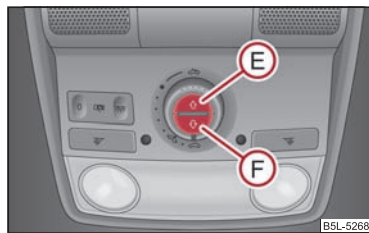

Fig. 35 Buttons for sun screen
You can open or close the sun screen separately with the aid of the buttons ⇒ fig. 35. ▶
- Briefly press the button **(E)** ⇒ page 50, fig. 35 in order to fully open.
- Briefly press the button **(F)** ⇒ page 50, fig. 35 in order to fully close.
Press the switch  ⇒ page 50, fig. 35 for approx. 10 seconds in order to initialise the sun screen.